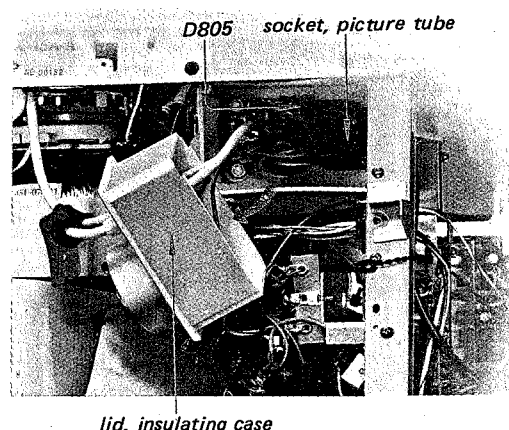

Fig. 2-25.
5. Swing the lid of insulating case as shown in Fig. 2-25. This permits access to the components of the convergence circuit and the socket of the rectifier tube.